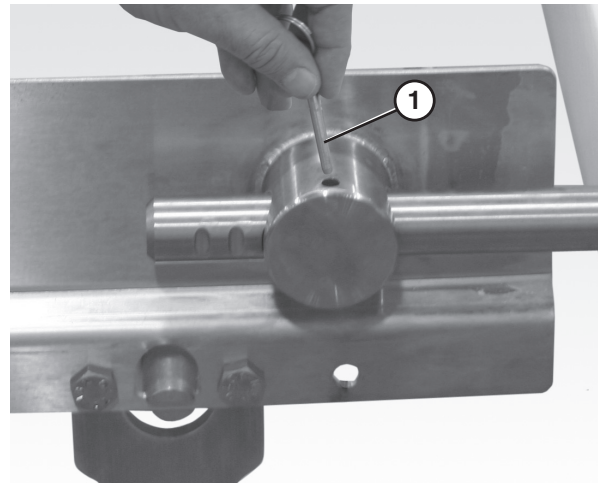

Figure 32
8. Insert the pull pins (**Figure 32**, item 1) on the tension end of the conveyor.